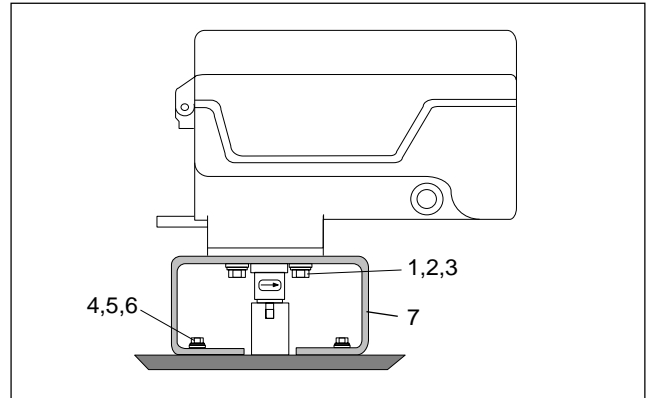

Fig. 6 Mounting kit for rotary actuators
- Screws, plain washers and spring washers as shown in Fig. 6 (included in the positioner's scope of delivery).
It must be possible to move the adapter manually within the range of 0.1 to 0.3mm. If necessary, loosen the screws (Fig. 6, item 4) and readjust the bracket.